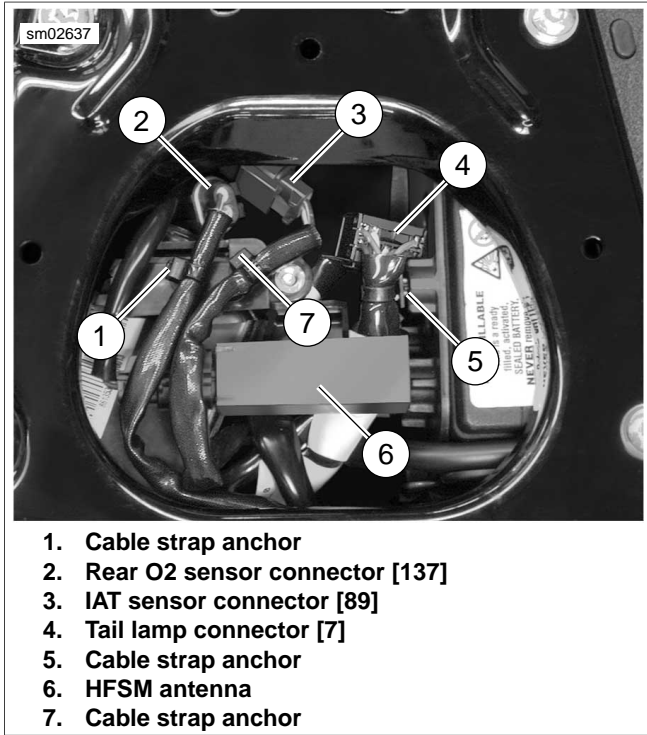

Figure 7-83. Under Seat Wiring
19. See Figure 7-83. Mate connectors located under seat: